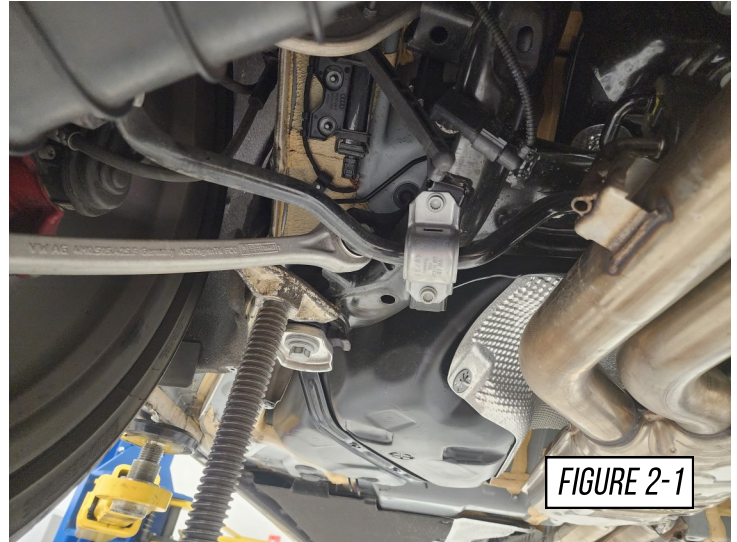

FIGURE 2-1
Using a pole jack, support the rear subframe of the vehicle close to the subframe bolt shown at (A) in **Figure 2-1**.